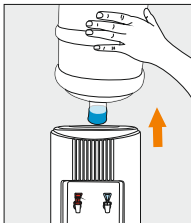

Figure 43
1. Remove the bottle from the cooler (Figure 43).